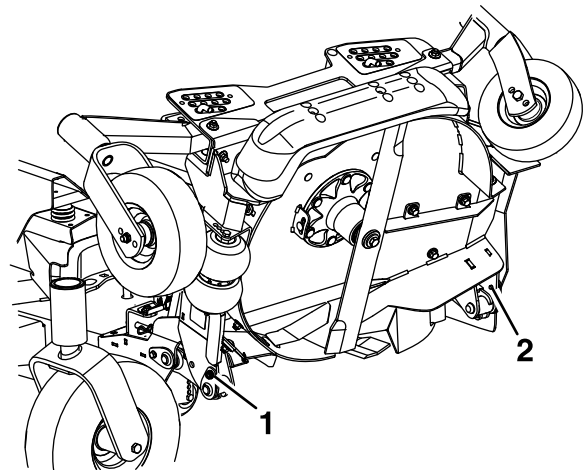
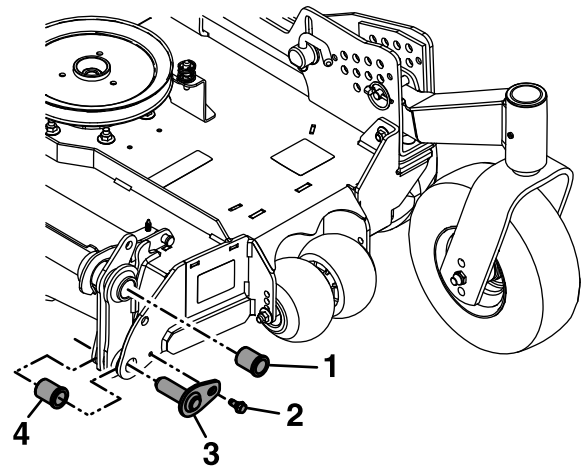

Figure 84
Figure 87
7. Loosen the bolts that secure the upper pivot pins to the deck but **do not** remove the bolts (Figure 84).
14. Remove the flanged bushings from the upper pivot points and clean the bore (Figure 87).
18. Remove and retain the lower pivot point bolts (Figure 84 and Figure 87).